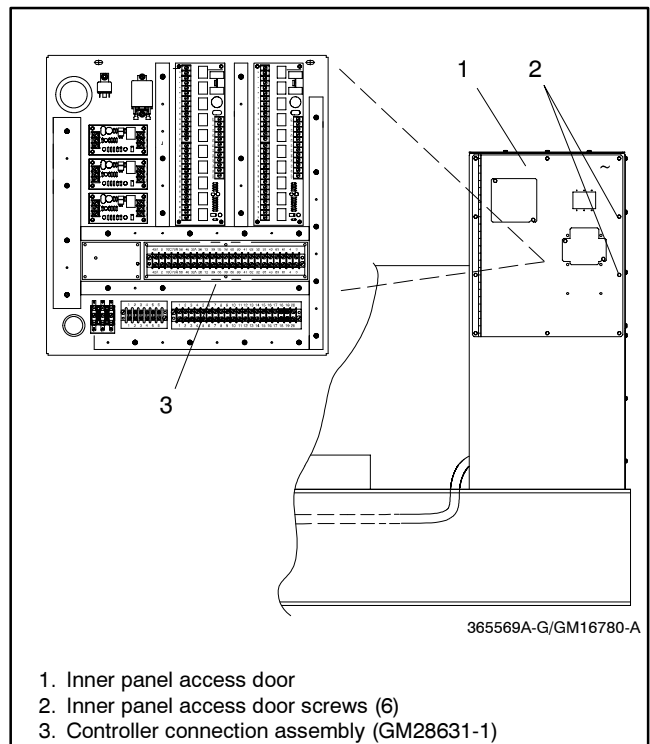

Figure 2 Junction Box Terminal Block Bracket Mounting
- 2.3 Attach controller connection assembly (GM28631-1) to junction box bracket using two screws (X-49-6) and whiz nuts (X-6210-3). The controller connection assembly includes terminal strip (328913), strip marker (328914), and wiring harness (GM10177). See Figure 2.